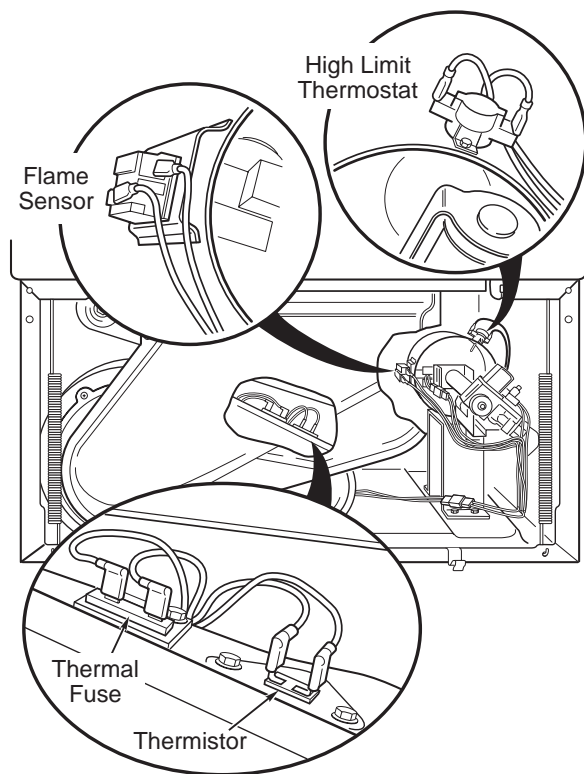

Figure 1
Remove the thermistor from the fan housing and plug the hole. See Figure 1. Protect the thermistor and leads from grounding against any metal parts. Completely block the exhaust outlet. Turn dryer on and allow the high limit thermostat to cycle once, then measure the time elapsed until the high limit thermostat trips. It should trip between 21 and 38 seconds.
Once the thermal fuse has opened, it must be replaced. Check for failed thermistor or other cause of failure. Replace failed parts. See Figure 1.
- ➔ If wiring is correct, replace the thermistor: Unplug the dryer and remove the front toe panel. Remove the two wires and replace the thermistor as shown in Figure 1.